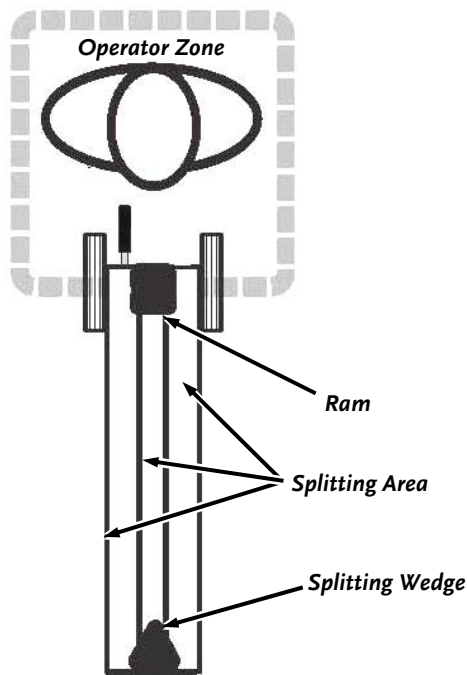

Figure 4
- When operating the Log Splitter, make sure you are positioned in the safe operating area (OPERATOR ZONE) as shown in **Figure 4**. You must stay in the safe operating area at all times when the splitting wedge is in motion (whether extending or retracting). Never place any part of your body into a position that causes an unsafe operating condition.